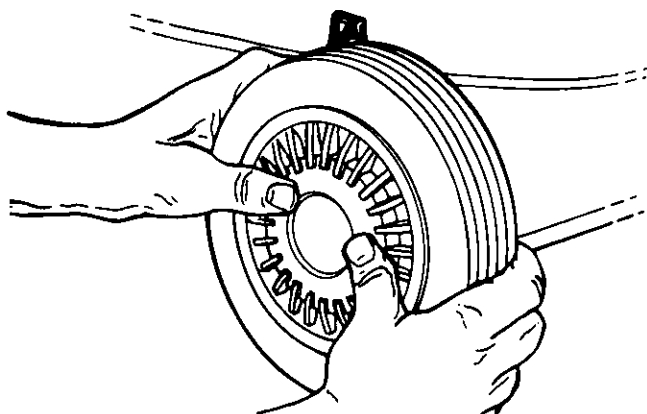

FIGURE 8.
1. Place hub caps in position against the inner hub of the wheel. Press firmly around the center portion of hub cap in a circular motion, similar to installing a lid on a round, plastic container. See figure 8. The hub caps are flexible and will snap over the 3 1/2" diameter wheel hubs.